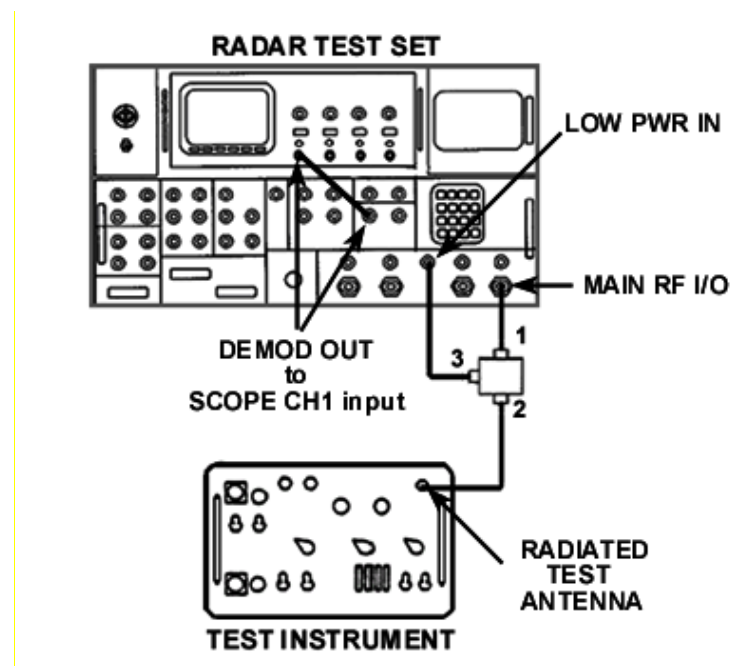
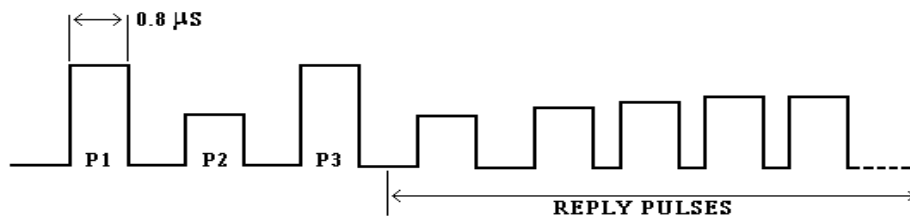

Figure 3. Transmitter frequency/pulse – equipment setup.
Figure 4. Pulse train (example).
(1) Connect equipment as shown in figure 3.
- (1) Connect equipment as shown in figure 3.
- (2) Set TI switches as listed in (a) through (d) below:
- (3) Select radar test set **Menu 11, MODULATION to ON**. Set TI **MODE** switch to **1, 2, 3/A, and C**, and adjust oscilloscope to observe presence of complete interrogation pulse trains (see fig. 4), making sure that TI **ACCEPT** lamp is lit in each mode.
- (4) Set TI **MODE** switch to **1**.
- (5) Set oscilloscope for a convenient display of the first 3 pulses of the interrogation pulse train.